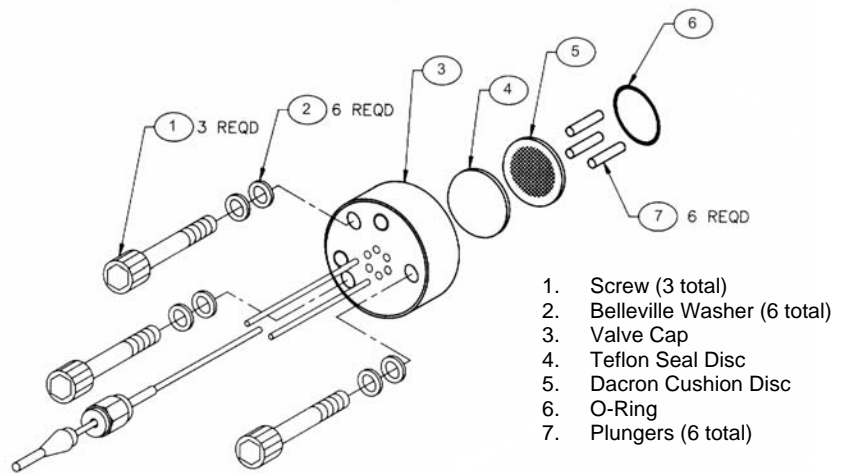
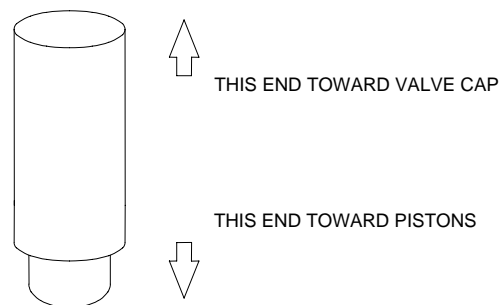

Figure 4-40: Model 11 Valve Cap Exploded View
Figure 4-42: Model 11 Plunger Orientation
2.	<p>Remove the three Allen head cap socket screws (1) and separate the cap (3) from the valve body (8). When the valve cap is removed, the following components are exposed. Refer to Figures 4-40 and 4-41.</p> <p style="padding-left: 40px;">Teflon Sealing disc (4) [clear] Dacron Cushion disc (5) [white] and "O" ring (6)</p>
3.	<p>Inspect the Teflon sealing disc (4), Dacron cushion disc (5) and silicon rubber "O" ring (6) for dirt or breaks.</p> <p>If damage is evident, discard damaged part(s) and replace with new component(s).</p>
4.	<p>If Teflon sealing disc (4), Dacron cushion disc (5) and "O" ring (6) are brittle or dirty, but not ruptured, or they are ruptured but clean, visually inspect the rest of the valve. If it is clean and in good order, install new Teflon sealing disc (4), Dacron cushion disc (5) and "O" ring (6) and reassemble the cap. Otherwise, either continue with valve disassembly or replace the valve.</p>
5.	<p>Examine each of the six plungers (7) for evidence of damage or contamination. If damage is evident, discard defective plunger(s) and replace with new ones. Refer to Figure 4-42.</p>
6.	<p>To reassemble the valve cap (3), refer to section Valve Cap Assembly. If the valve actuating piston assembly is contaminated or malfunctioning, refer to Valve Body disassembly.</p>
10.	Using a syringe with Krytox 143 AY lubricating oil, place a drop of oil on sidewall of each valve body (8) plunger hole.
11.	Reinstall the six plungers (7) into their valve body positions. Using tweezers, move each plunger up and down to thoroughly lubricate them. Plungers must not protrude above valve body (8) top surface. Refer to Figure 4-42 for plunger orientation.
12.	Using clean lint free cloths wetted with acetone, remove excess lubricating oil from top of valve body (8).
15.	<p>It is recommended that appropriate torque wrenches be used for this step (available from Siemens – PN's 1631005-002 and 1631005-003). Install valve cap (3) using the three 10-32 Allen screws (1). Screws must be tightened evenly in sequence 1, 2, 3, 1 sequence. Tightening steps are as follows. Refer to Figure 4-40.</p> <p>Run screws down until they contact valve cap.</p> <p>Tighten screws with Allen driver until they are finger tight.</p> <p>Tighten screws to approximately 15 inch pounds (1.69 Nm). This is a ¼ turn maximum.</p> <p>Tighten screws to approximately 20 inch pounds (2.26 Nm). This is another ¼ turn maximum.</p> <p>Tighten screws to approximately 35 inch pounds (3.95 Nm)</p> <p>Torque bottom adjusting set screw to 6.5 inch pounds (0.73 Nm).</p>